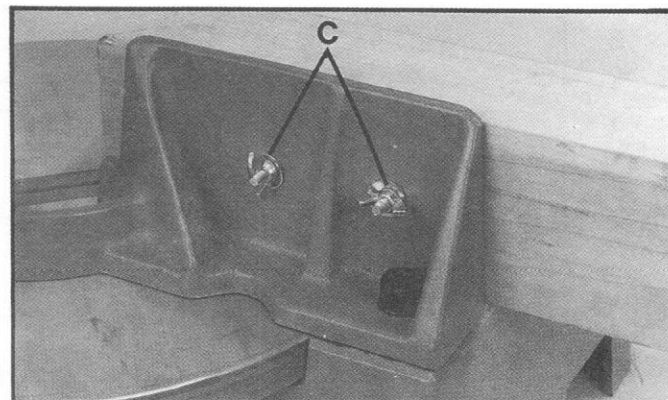

Fig. 50
Then attach the filler blocks to the fence using wood screws (C) through the two holes provided on each fence half, as shown in Fig. 50. This enables you to easily remove the filler blocks when not in use and quickly re-assemble them to the fence when needed.